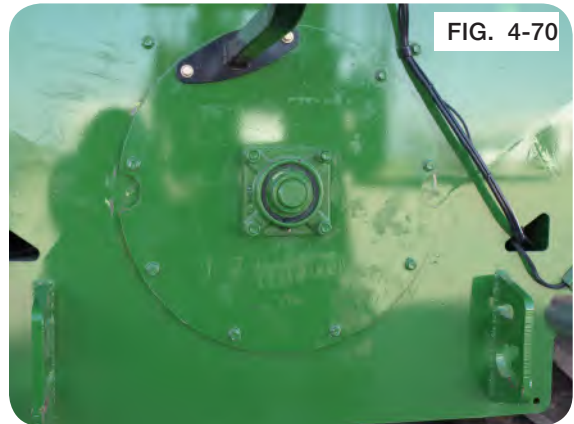

FIG. 4-70
24. Reattach the rear auger cover and SMV bracket back onto the cart. (Figure 4-70)